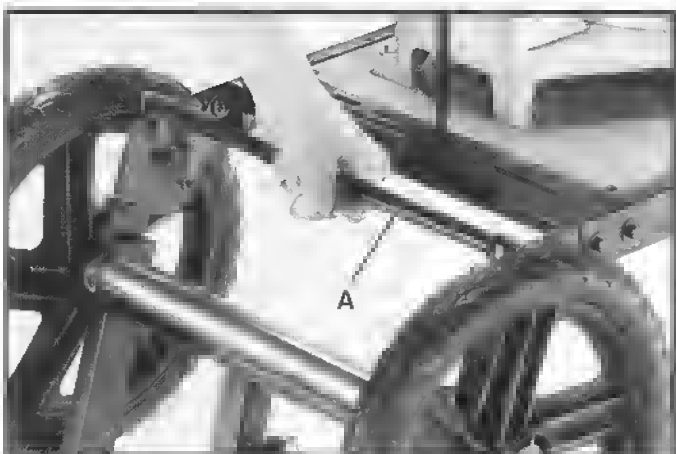

Fig. 49
1. To fold saw stand for storage or transportation to a different location, lift up bar (A) Fig. 49, to disengage lag lock. **IMPORTANT:** Leg on wheel end of saw stand should be folded first.